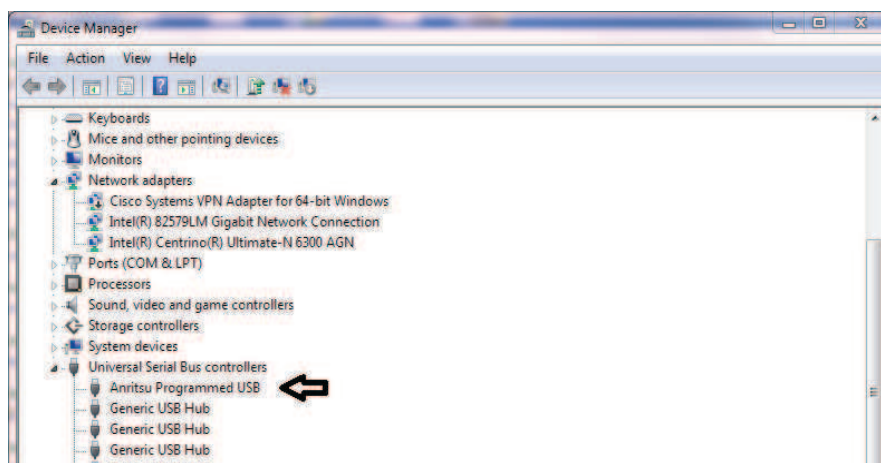

Figure 2-5. Universal Serial Bus Controllers
- Confirm that the Anritsu USB driver has been installed by checking the Windows device manager under the Universal Serial Bus Controllers. See Figure 2-5.